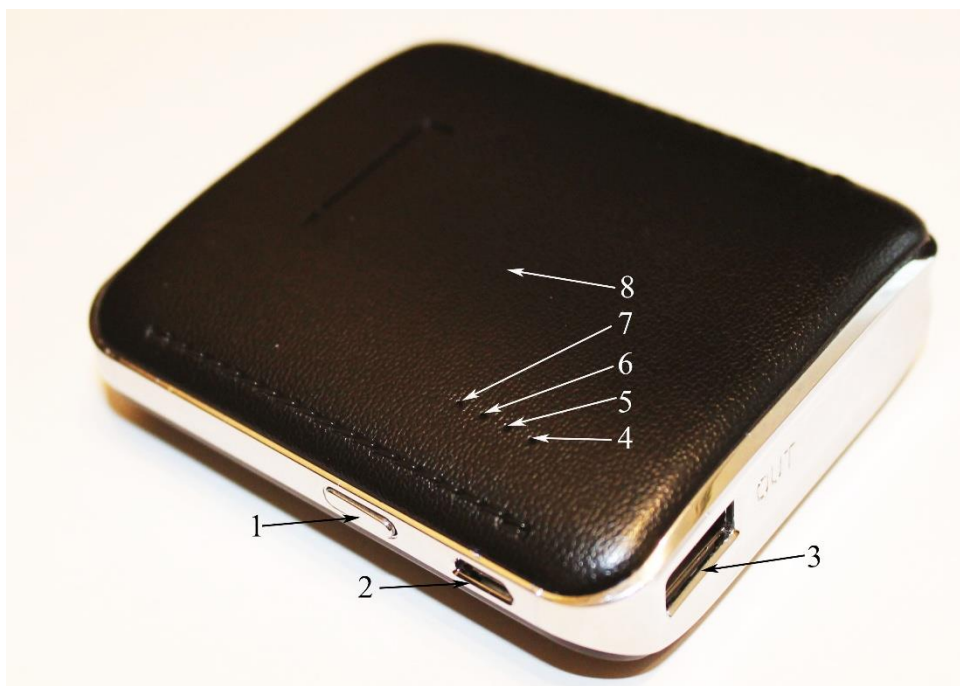

Fig. 1 Life Animal
- 5-7. Indicators of the selected program intensity. (5 – blue, 6 – yellow, 7 - green). Fig. 1
1. Turn on the device by holding the on/off button for 3-4 sec. (No. 1 Fig. 1). After that the device indicators will blink five times. The number of glowing LEDs is proportional to the battery charge, meaning that all 4 LEDs glowing indicate 100% charge, while 2 LEDs glowing indicate 50% charge.
The device has 4 intensity levels, with the 1st level turned on by default (a red indicator). To change the signal intensity level while the selected program is running, press the on/off button (position 1, fig. 1). The red indicator (the 1st level) will start glowing. When you press the button again, you will see the blue indicator glowing, next - yellow and green indicators which correspond to the 2nd, 3^d and 4th intensity levels. After that, the device will switch again to the program run indication which is a flashing green indicator.
Turn on the device by pressing ON (No. 1, Fig.1) and holding it for 3-4 sec until the red indicator flashes (No. 7, Fig. 1). This option protects the device from accidental turn-on/off. The device will immediately start the embedded program (with the green indicator flashing).